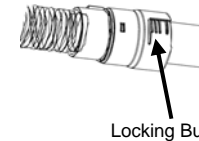

Fig. 2
3. To remove the flexible hose, unplug the hose connecting power cord and then depress the 2 locking buttons and pull the flexible hose out. (Fig. 2)